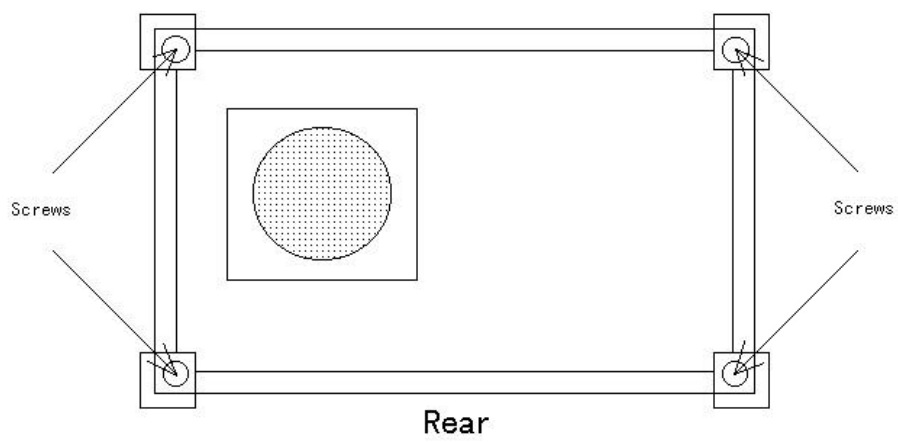

Fig. 1
1. Loose and remove four screws on the rear panel. (Fig. 1)
11. The firmware update is completed. Place the cover and tight the four screws on the rear panel. (Fig. 1)